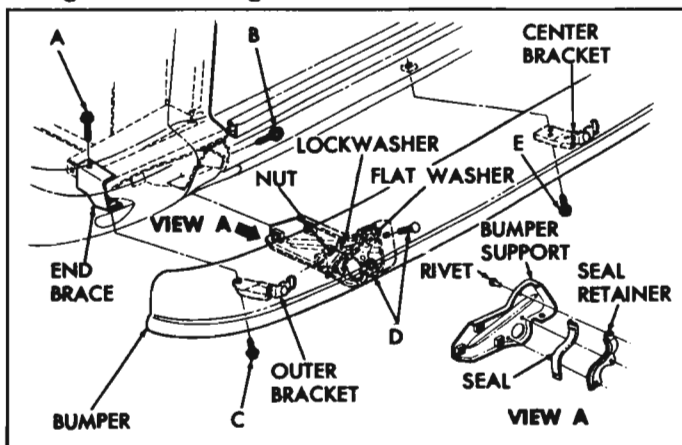

Fig. 10-32a—Rear Bumper
1. Remove bolt ("C", fig. 10-32a) at left and right outer brackets.
3. Remove two bolts ("E", fig. 10-32a) at center bracket.
4. Remove three bolts at ("B", fig. 10-32a) left and right bumper support, attached to rear side rails of the underbody.